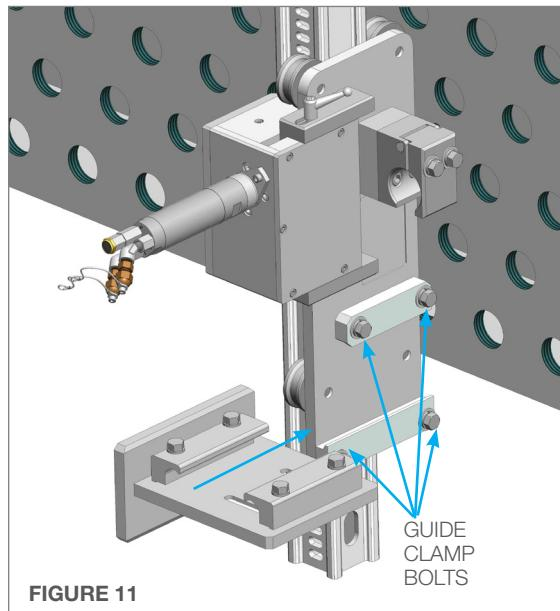

FIGURE 11
11. Using a 9/16 in. wrench, loosen all four Guide Clamp Bolts located on the Vertical Carriage. Install the **Guide Plate Assembly** into the Guide Clamps. (**Figure 11**)